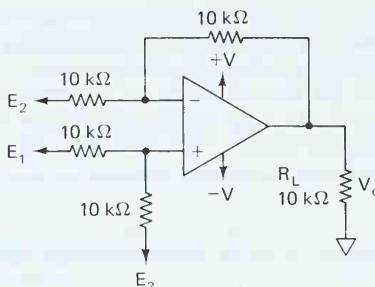

FIGURE P8-12
- 8-12.** Refer to the circuit of Fig. P8-12. Complete the table below for each input condition.